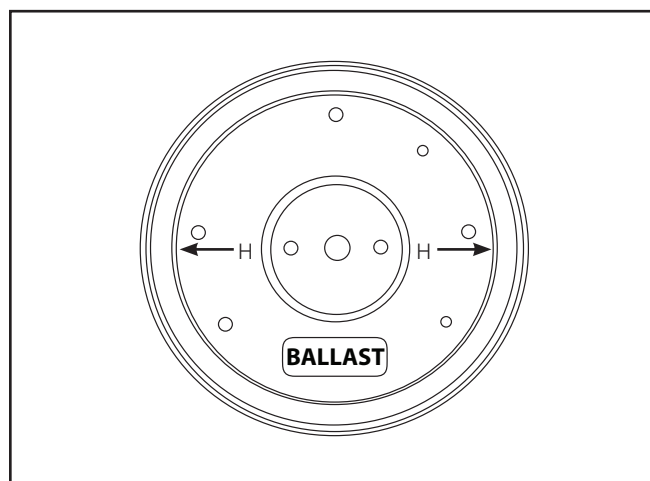

Figure 4. Back Casting W/ Screws
d) Mount back casting onto studs, slip on washers and secure with 1/4-20 nuts provided. If wall mounted, note the horizontal arrows for orientation (Figure 4.).
a) Remove at least (4) of the 1/4"
c) Select the correct type of fastener (by others) to use with the four 1/4" knockouts. Adhere the fastener-hole gaskets provided over the area of the knockouts being used (Figure 4.). See step 4.